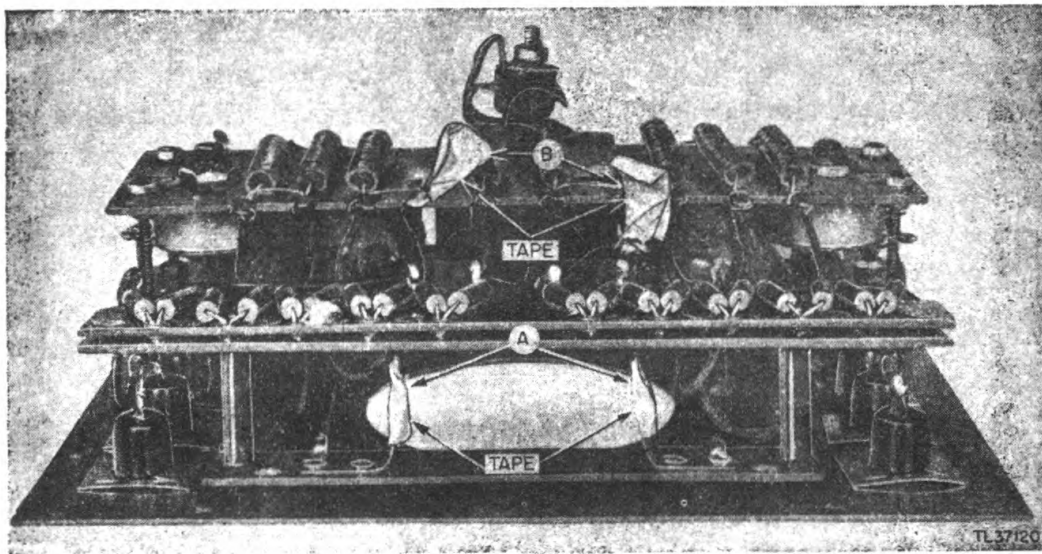

Figure 15. Test Set I-179, method of masking contact strips and meter leads.
- (3) MASKING. The following components should be covered with masking tape as shown in figures 15 and 16.
- (c) Contact-strips of Battery BA-42, item A, figure 15.
- (d) Terminals of the meter leads, item B, figure 15.